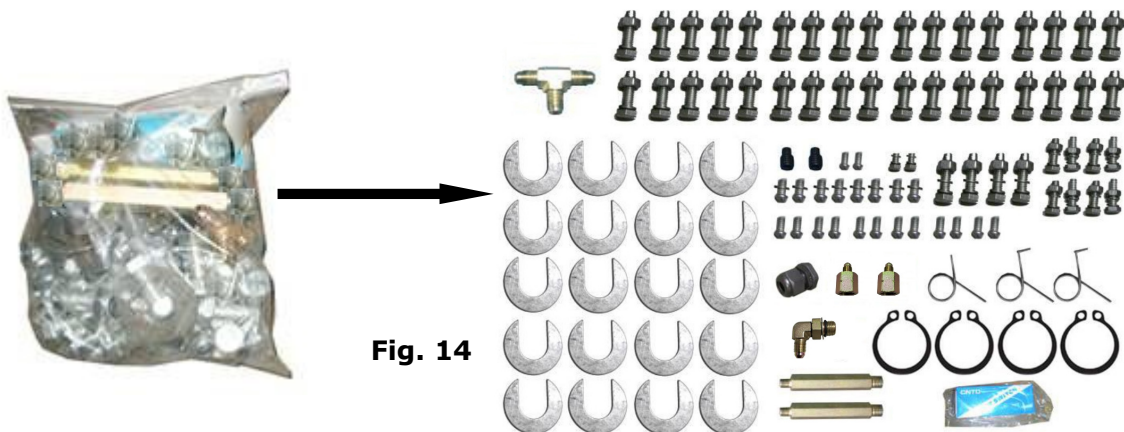

Fig. 14
7. Check the parts of the parts bag 1# according to parts bag list (See Fig. 14).